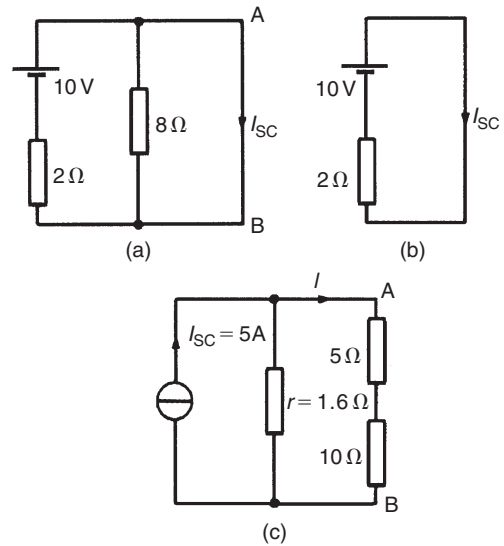

Figure 13.55
- (i) The branch containing the  $10\Omega$  resistance is short-circuited as shown in Fig. 13.55(a)
- (ii) Fig. 13.55(b) is equivalent to Fig. 13.55(a).
- (iii) If the  $10\text{V}$  source of e.m.f. is removed from Fig. 13.55(a) the resistance 'looking-in' at a break made between A and B is given by:
- (iv) From the Norton equivalent network shown in Fig. 13.55(c) the current in the  $10\Omega$  resistance, by current division, is given by: